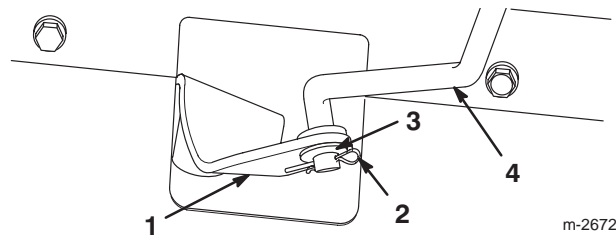
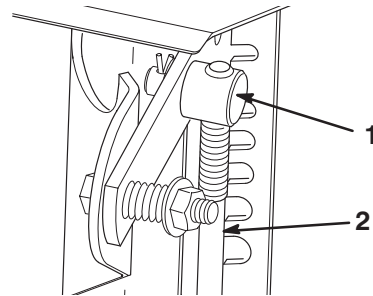

Figure 6
Figure 8
- Pull the speed selector arm (Fig. 6) to the most outward position.
- Rotate the speed selector rod in the trunnion (Fig. 8) until the bottom end of the rod can slip into the hole in the speed selector arm (Fig. 6).
4. Install the speed selector rod into the selector arm, add one flat washer on the rod, and secure it with a cotter pin (Fig. 6).